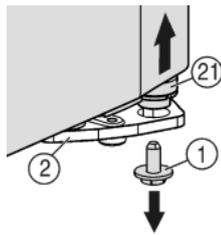
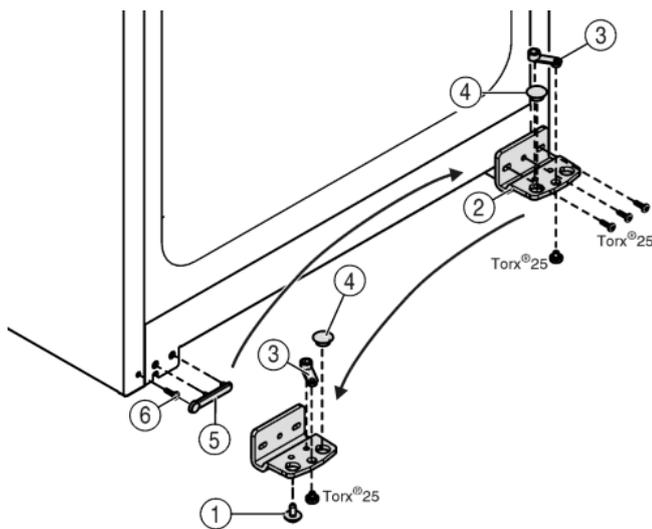

Fig. 5
Fig. 6
- ▶ The bearing pin Fig. 5 (21) should come out of the turn hinge Fig. 6 (2).
- ▶ If the bearing bolt Fig. 5 (21) doesn't undo press it out from underneath.
- ▶ Unscrew the turn hinge Fig. 6 (2).
- ▶ Unscrew the bearing element, Fig. 6 (3) transfer it to the opposite location hole of the turn hinge and screw it firmly into place.
- ▶ Take the stopper Fig. 6 (4) out of the turn hinge and transfer it to the receiving hole on the opposite side of the turn hinge.
- ▶ Carefully lift off the cover Fig. 6 (5) on the handle side.
- ▶ Undo the screw Fig. 6 (6) and transfer it to the opposite side.
- ▶ Put the cover Fig. 6 (5) back on.
- ▶ Screw the turn hinge Fig. 6 (2) firmly into place on the new hinge side (**with 4 Nm**), possibly using a power screwdriver.
- ▶ Insert the securing screw Fig. 5 (1) at the bottom into the bearing pin and tighten it (**with 4 Nm**).